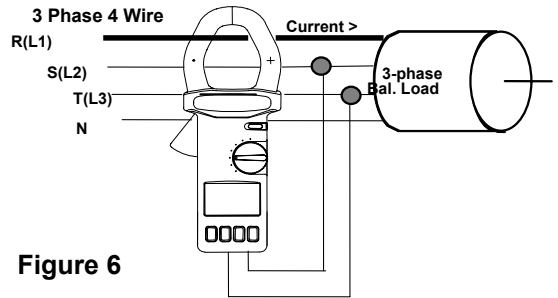

Figure 6
7. Connect another test lead to the second phase (S or L2). See Fig. 6.